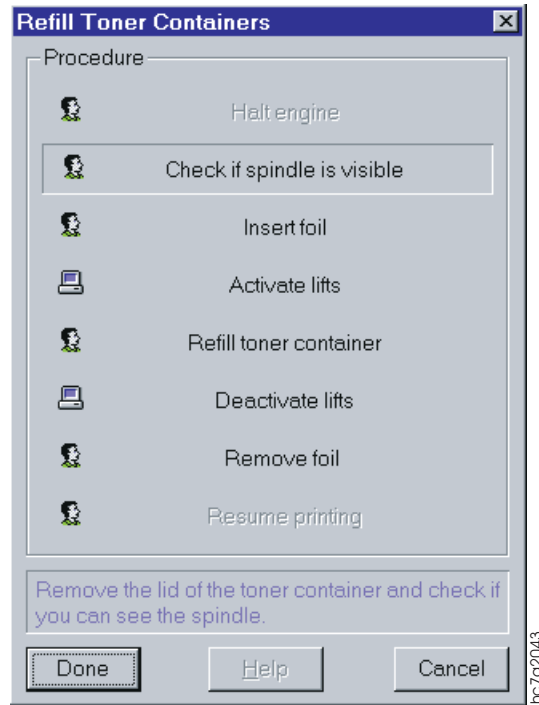

Figure 284. Refill Toner Containers Window
14. Place the lid back on the container and click the **Done** pushbutton in the **Refill Toner Containers** window, as shown in Figure 284 on page 308.